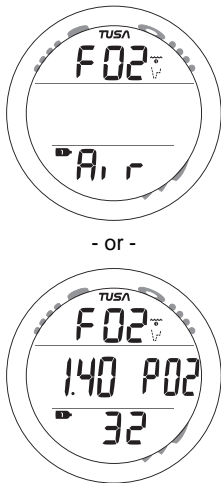

Fig. 52 - PLAN LEAD-IN
**Plan Lead-in** information includes (Fig. 52):